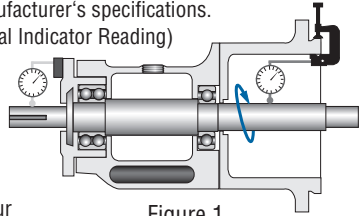

Figure 1
The above values apply to shaft speeds in the range from 1000 to 3600 RPM. For values above and below, consult your Flowserve representative. See Figure 1.
- 2.1 **Review seal assembly drawing, seal assembly, and equipment** prior to installation. Read all notes on the seal assembly drawing. For hook sleeve designs, confirm the seal setting length shown on the assembly drawing matches the equipment. See Figure 1.